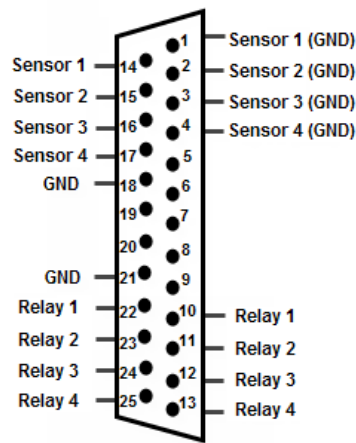

Figure 2.4-14 External connector pinout of the 4/4 DI/DO (low profile) card
5. To connect DI/DO, unsolder the connector. Unsoldering is made in accordance with the external connector pinout of the 4/4 DI/DO (low profile) card (Figure 2.4-14).